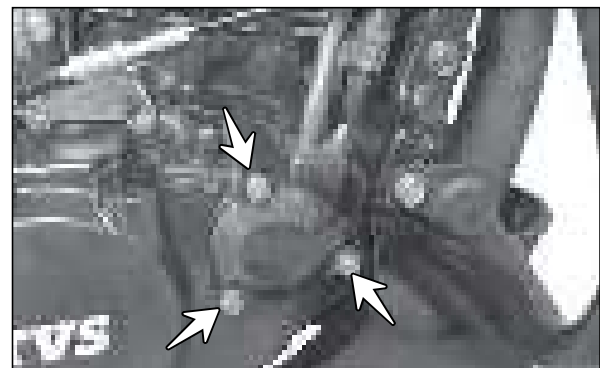

Fig. 2.35
- Loosen and remove the hexagonal flange bolts (M6x16 - 2 Nos. and M6x75 - 1 No.). (Fig. 2.35)